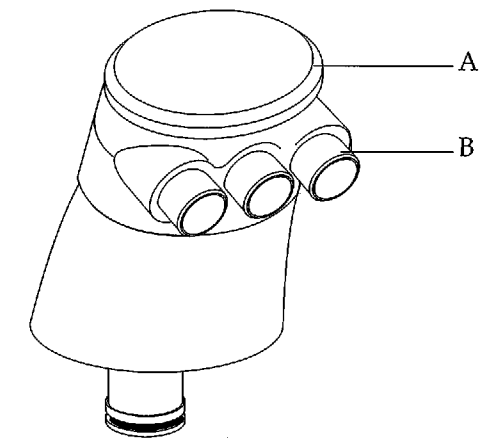

Figure 41. Installing the solids collector. (A) cap; (B) connector
6. Lube the solids collector O-ring. Align the grooves in the connector. Push down as you turn the collector to engage the vacuum pipe (see Figure 41).